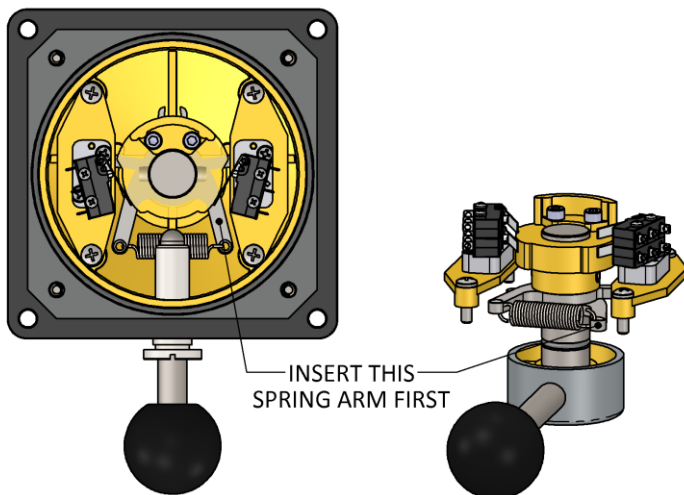

Figure 8: 7196 Spring Arm Order
- c. Refer to Figure 8 for spring arm orientation/order during re-assembly.